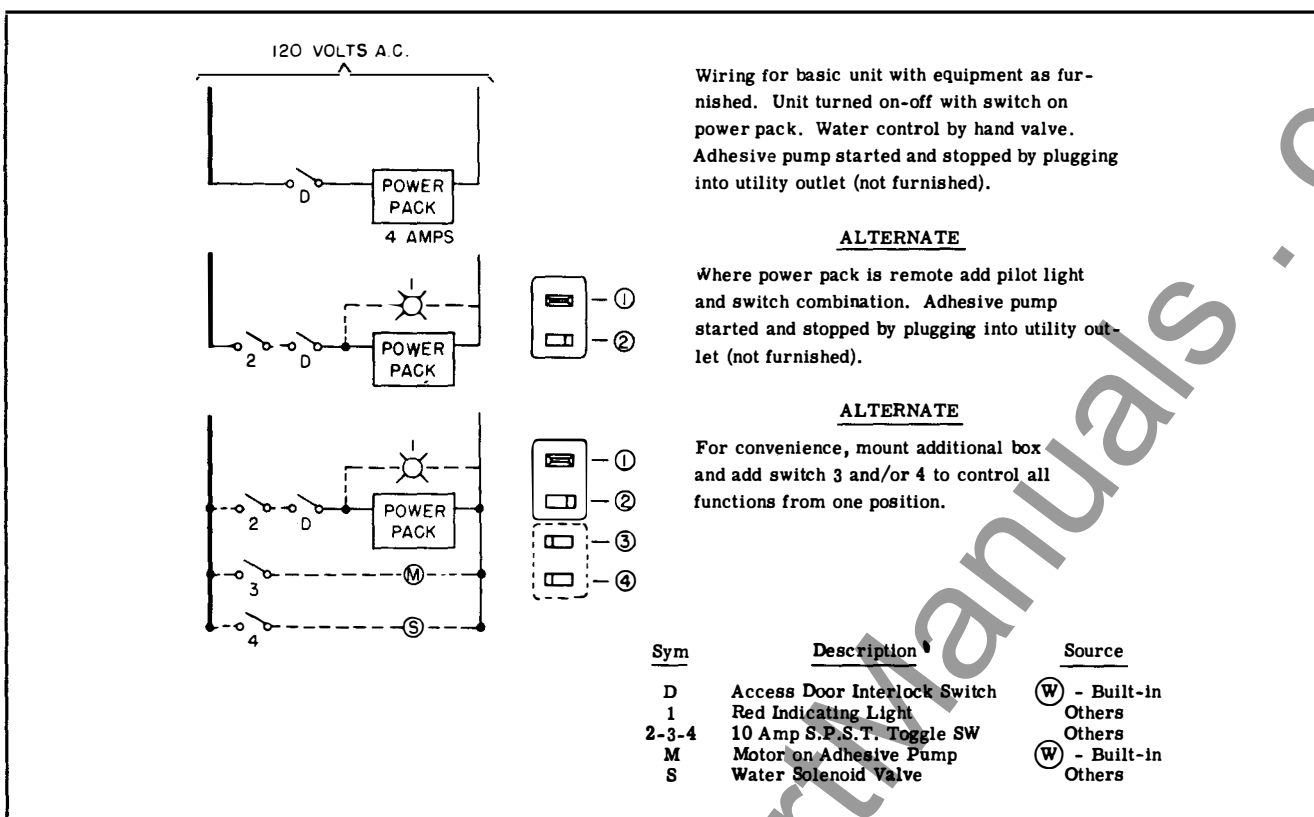

Fig. 9 Low Voltage Connections
**Connections.** Fig. 9 shows typical wiring connections required. The access door interlock switch is wired in series with the power pack to the 120 volt supply. The interlock is for the safety of the operator. It must disconnect the 120 volt supply before the cabinet access door can be opened. A 120 volt convenience outlet and flexible cord are required for the adhesive pump motor. Alternate wiring methods are shown in Fig. 9. Red light (Sym. 1) and switch (Sym. 2) are recommended if power pack must be located remote or out of sight from cabinet access area. Conduit and wiring (not supplied) should not obstruct the clearance space in front of the cabinet door.
Electrical faults can usually be found by careful inspection. Wiring diagrams (Figs. 9 & 10) should be helpful in analyzing possible troubles. Common faults and probable causes are shown in Table No. 1. These points should be checked first before attempting the more difficult process of elimination. If a